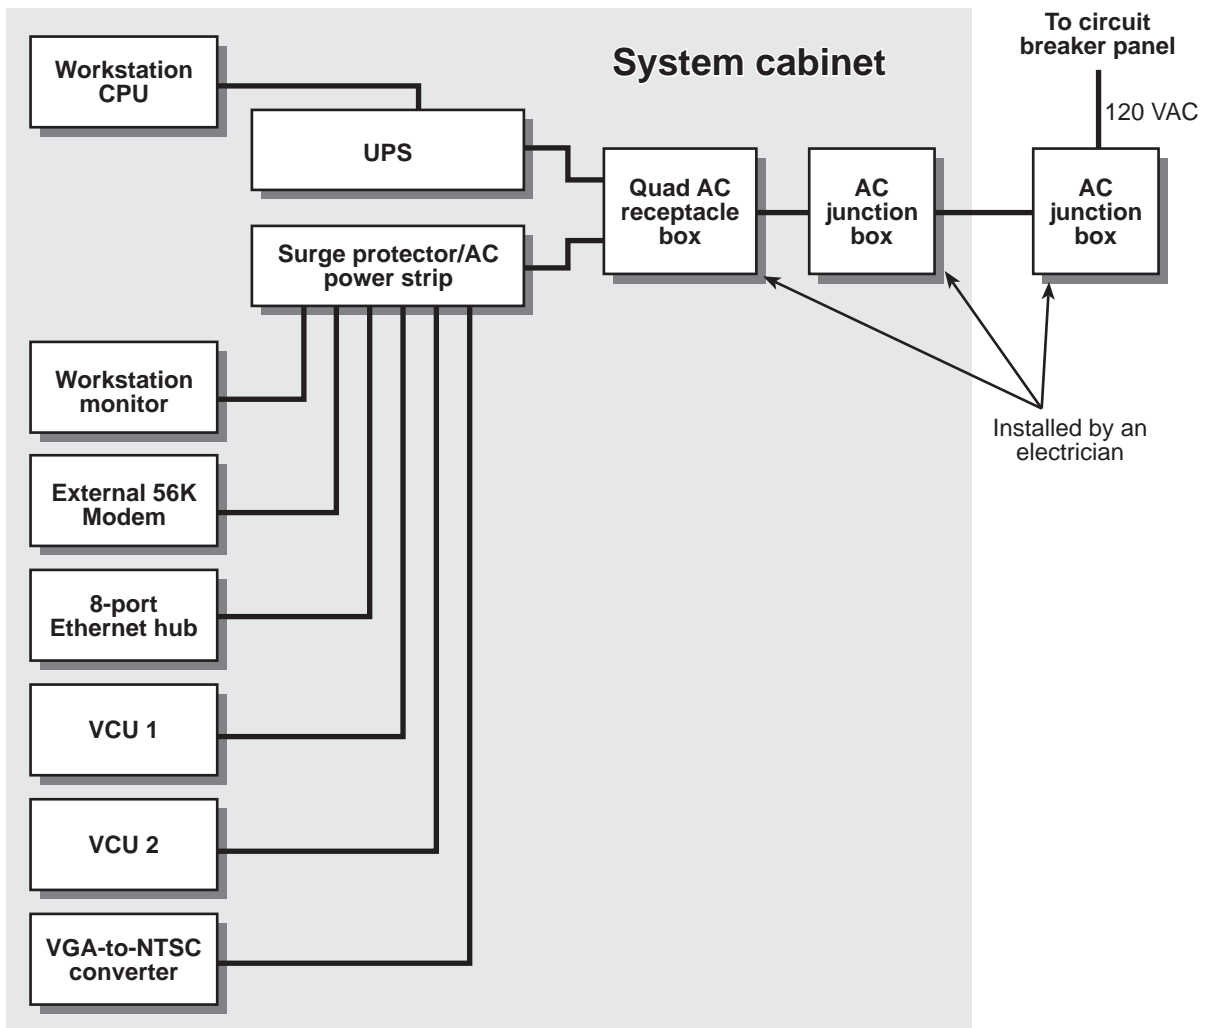

Figure 8. System cabinet AC wiring diagram
- A 120-VAC power feed (an electrician must install the AC conduit, AC junction boxes, and quad AC receptacle box needed to connect AC power to the Digital DataCatch cabinet as shown in figure 8 on page 19)